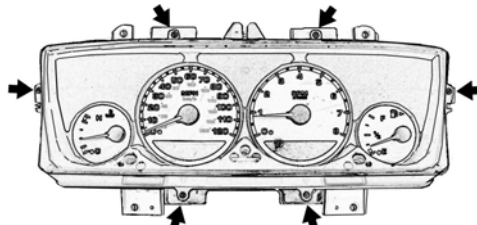

Figure 3
4. Remove the 6 Torx T15 screws from the front of the OEM instrument cluster and remove the OEM bezel lens assembly (See figure 3). Set the Bezel Lens and the 6 Torx screws aside for later use.